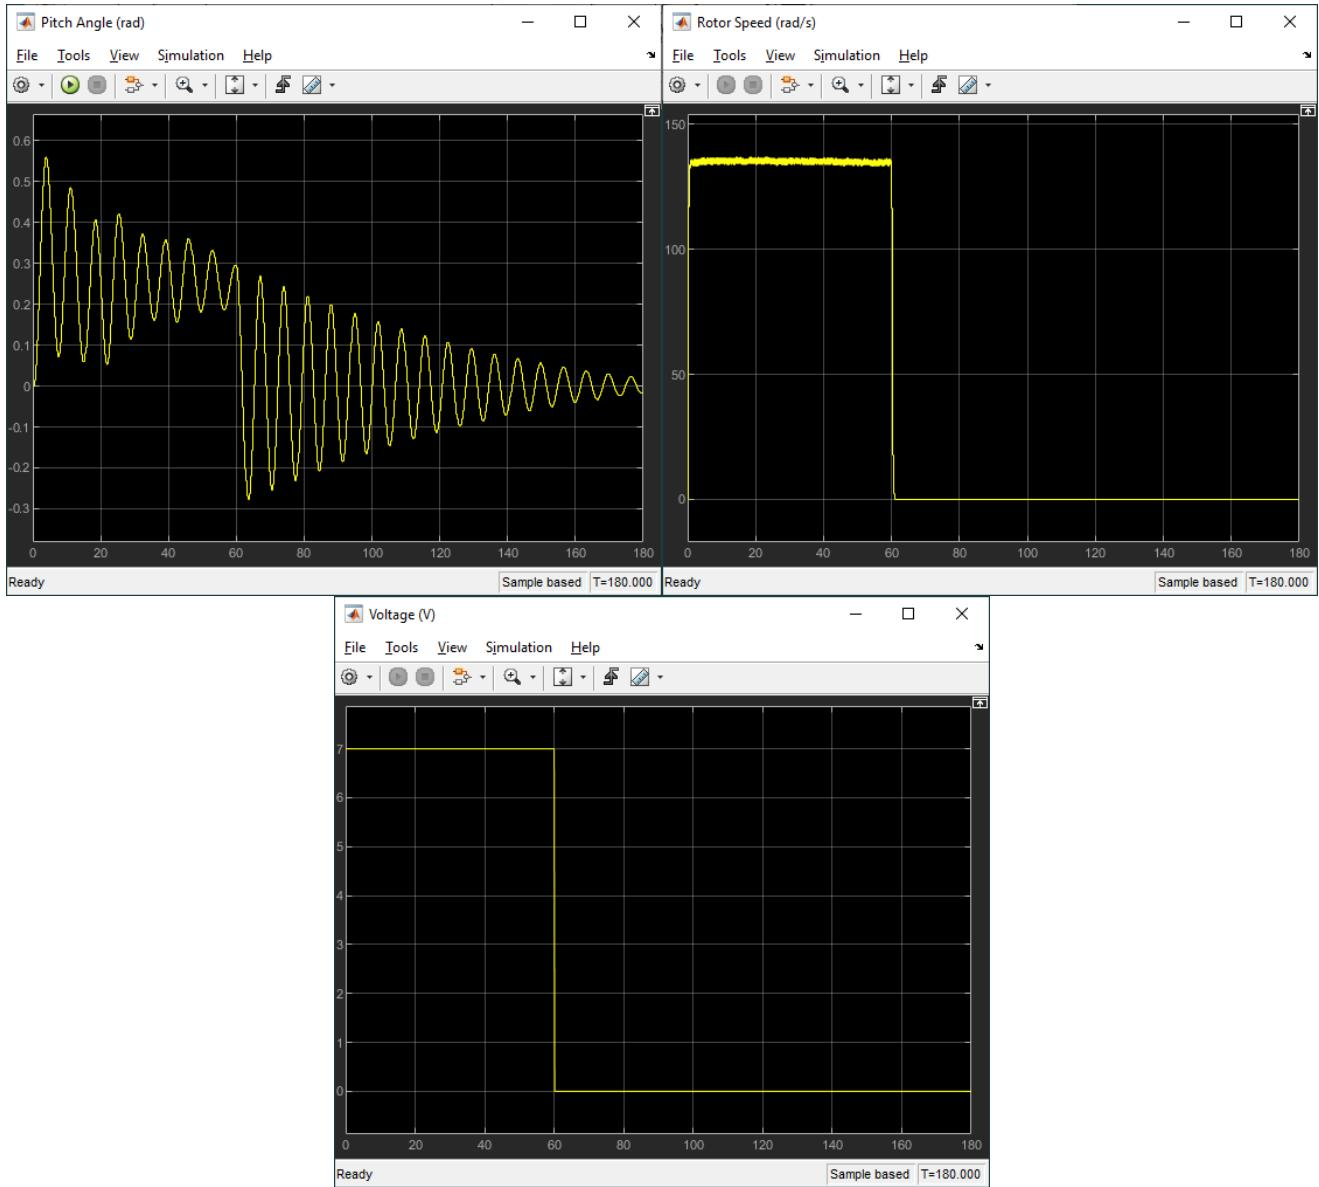

Figure 2 – Aero 2 step response
3. Build and run the *q_aero2_pitch_step.slx* Simulink model in QUARC to apply the step to the front rotor, i.e., motor 0. The model will stop automatically after 180 sec. The response should look similar as shown in Figure 2.